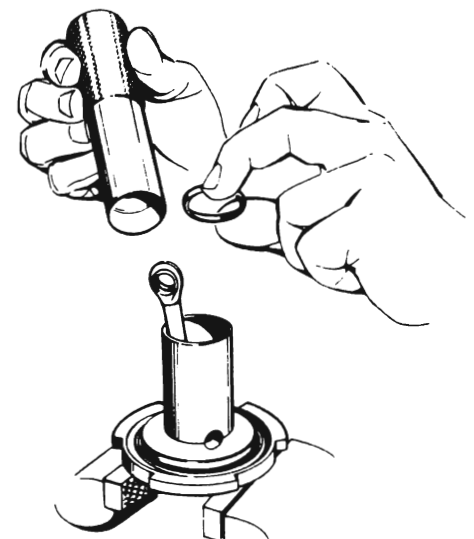
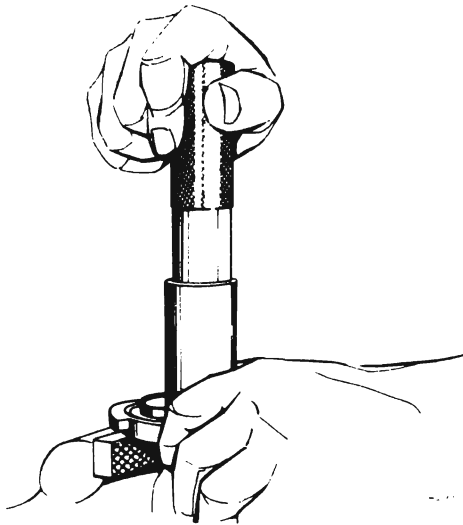

Figure 50-70 Installing Floating Control Valve Retainer With Installer J-23175
Figure 50-71 Seating
5. Place the I.D. of the floating control valve retainer on the O.D. of floating control valve retainer installer J-23175. See Figure 50-70. Place over the push rod so that the closed side of the retainer seats on the floating control valve. With Installer J-23175, manually press the retainer and floating control valve assembly to seat in the primary power piston tube. See Figure 50-71.